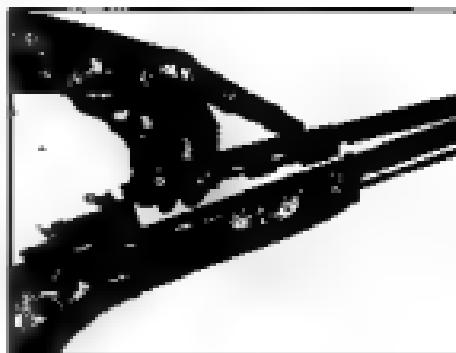

Figure 14
- 6 Now remove the Gas Tube/ Handguard Assembly raise the handguard assembly and rock it slowly from side to side until it can be pulled away from the gas block. (Figure 14).